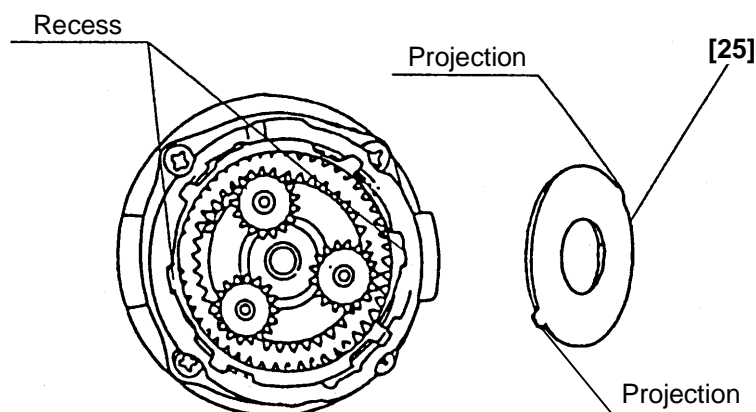

Fig. 13
Install Washer (B) **[25]** in the Rear Case **[17]** so that the projection of Washer (B) **[25]** is engaged with the recess in the Rear Case **[17]**, and turn Washer (B) **[25]** clockwise until it can turn no further. (See Fig. 13)